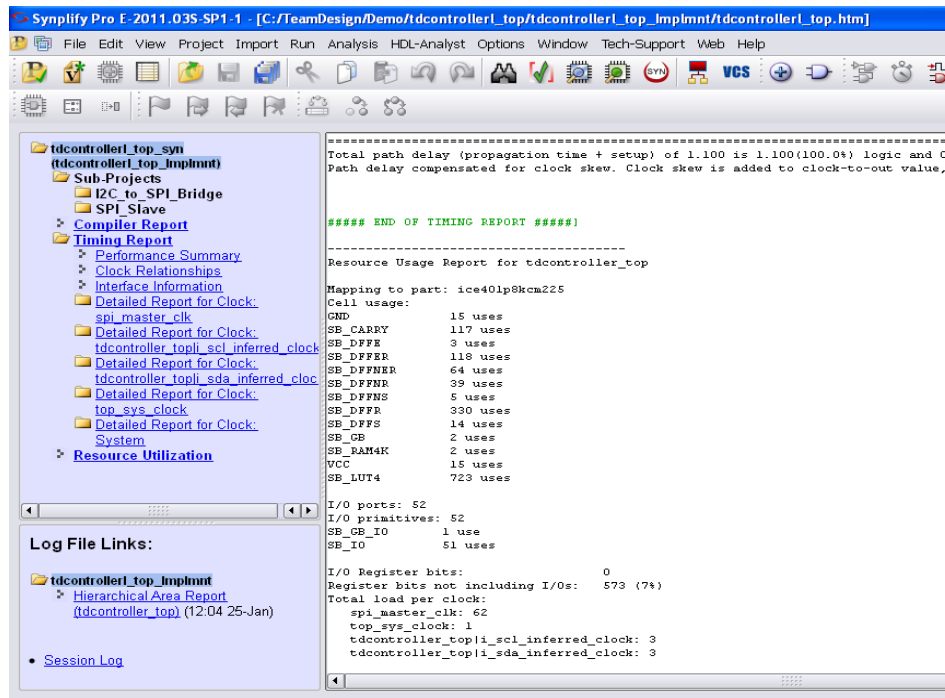

Figure 9-12: Resource Utilization Report for Top Level Project
- Click on "Run" to synthesize the top level design. Click on the "View Log" menu item and select the "Resource Utilization" link. The resource usage report shows that all the design units are elaborated and synthesized into primitive cells, as shown in Figure 9-12.